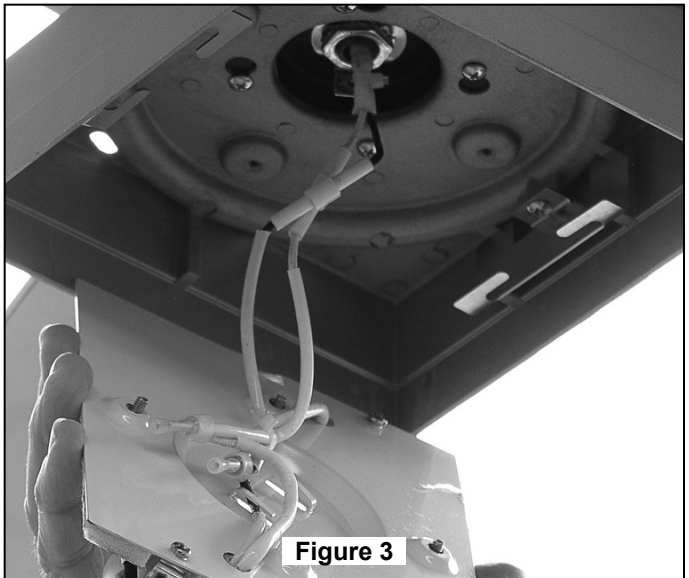

Figure 3
4. Route wires through Square Motor Coupling Cover, Square Sleeve, Canopy Screw Cover and through opening in Canopy. Position Canopy Screw Cover and Canopy on fan shown with open side facing up. (Figures 3 & 4)
7. Slide the Square Motor Coupling Cover and Square Sleeve down as shown. (Figure 3)
4. NOW, securely and fully tighten the lag bolt in the center of the Hanger Bracket while being careful not to allow the Hanger Bracket to rotate. (Figure 3)
- Connect wires as indicated: (Figure 3)
3. Securely attach plugs from motor to sockets on Downlight Support Plate Assembly (Figure 3)